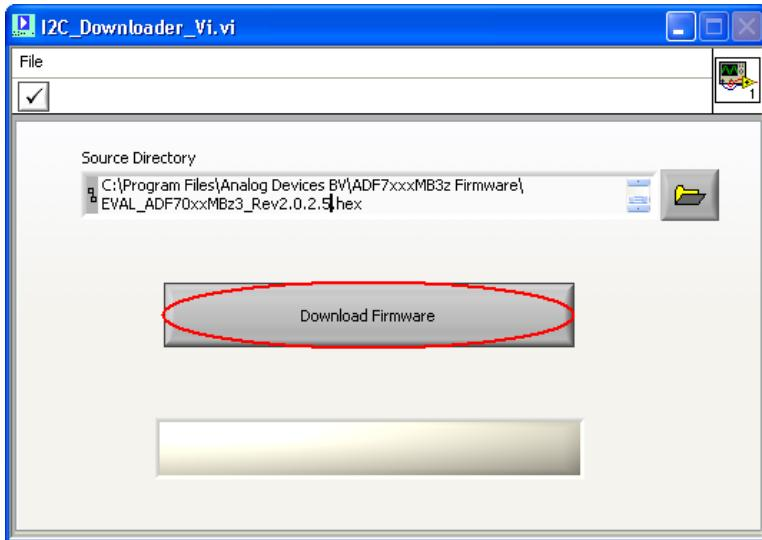

Figure 24
4. Click “Download Firmware” and follow the onscreen instructions (Figure 24).